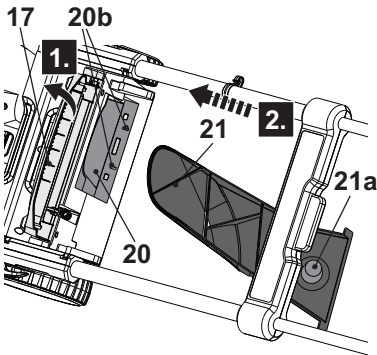

Fig. 16
**NOTE:** Mulching means cutting and returning the grass clippings to the lawn in one step: the grass clippings are cut very fine and then distributed evenly back onto the lawn. Under normal conditions, the mulched grass will biodegrade quickly to provide nutrients to the lawn. Do not attach the grass catcher (6) and the mulching insert (21) at the same time.
1. Open the deflector guard (17), hold the handle (21a) in position and insert the mulching insert (21) into the rear discharge chute (20) (Fig. 16). Ensure the spigots (21b) snap into the rear discharge chute slots (20b).